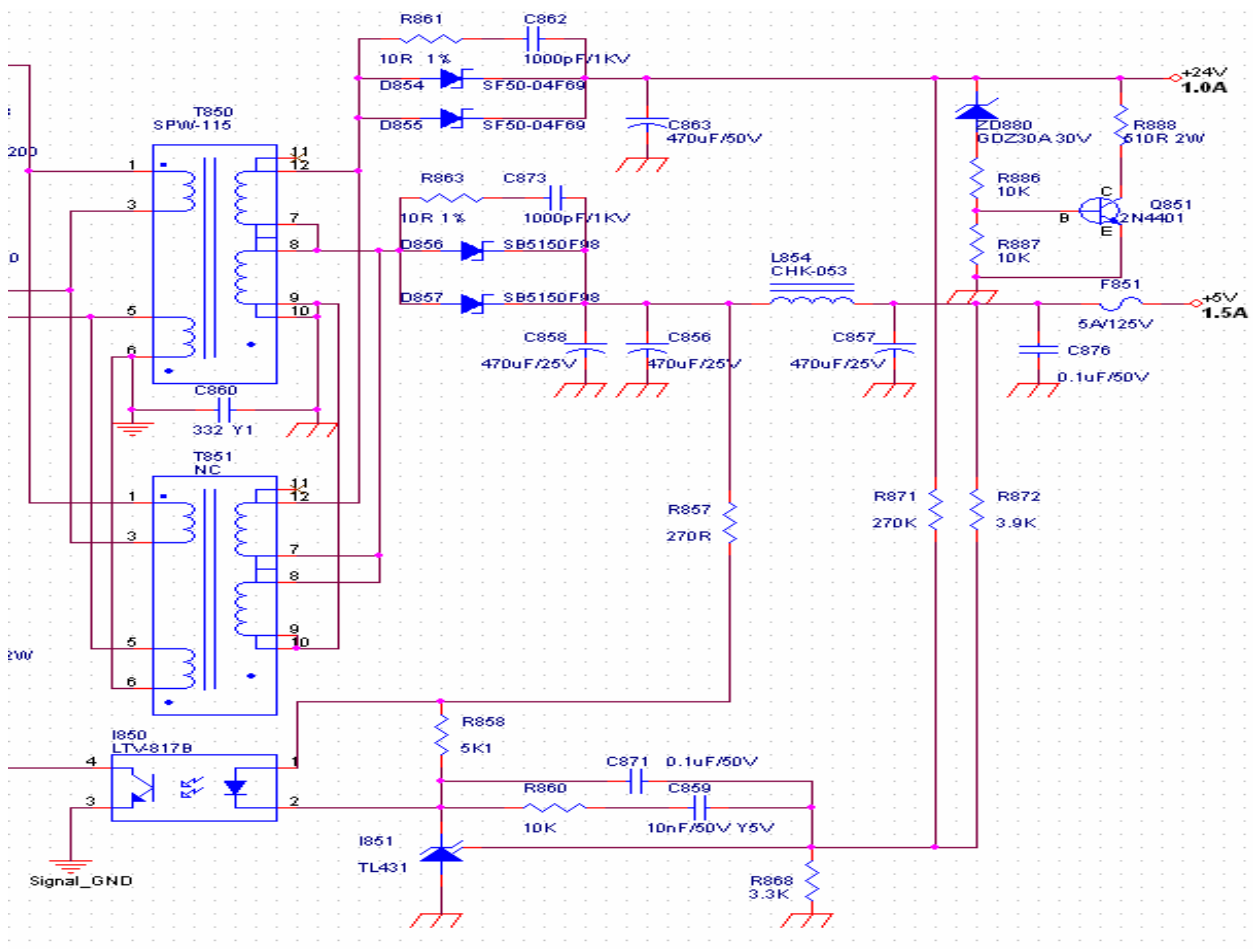

fig.2.2.3
2.2.3 DC 24V and 5V Output Circuit and Feedback circuit:(fig.2.2.3)